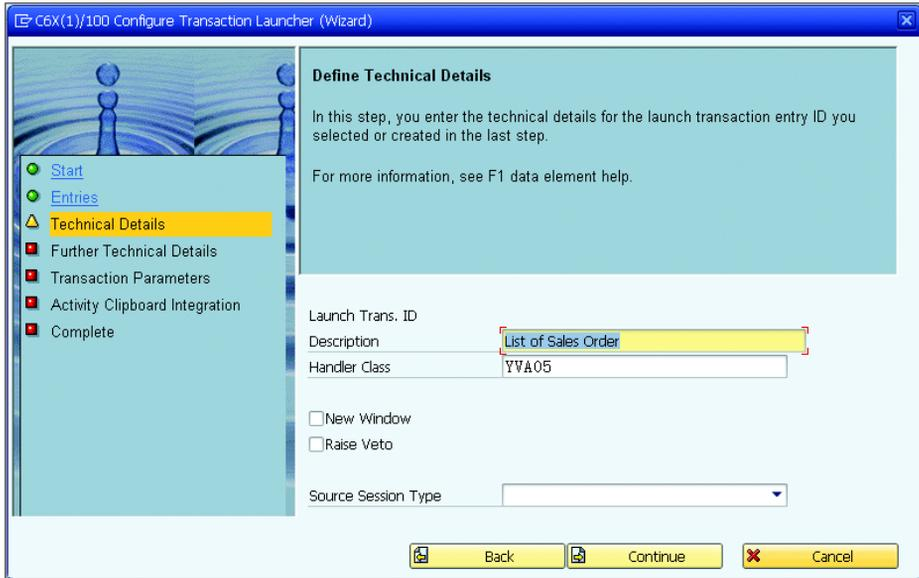

Figure 8.48 Defining the Technical Details
3. Define the technical details by entering the HANDLER CLASS, as shown in Figure 8.48, and clicking CONTINUE.